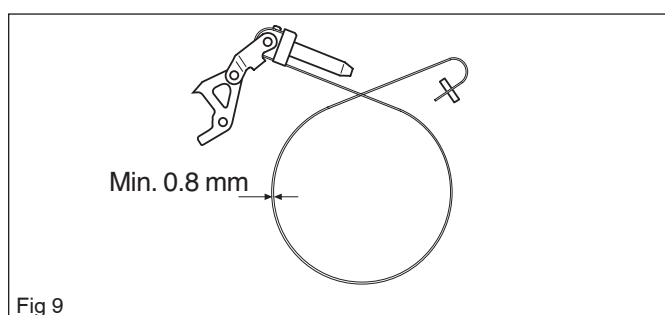

Fig 9
- Measure the thickness of the chain brake band. It must not be less than 0.8 mm at any point. See Figure 9.
1. Fit the toggle joint and brake strap. See fig. 9.